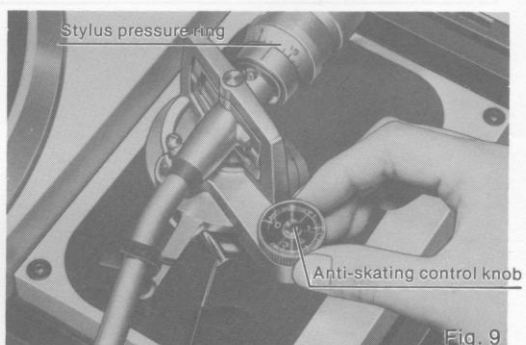

Fig. 9
6. Turn the anti-skating control, and set it to the same numerical value as the stylus pressure (Fig. 9).